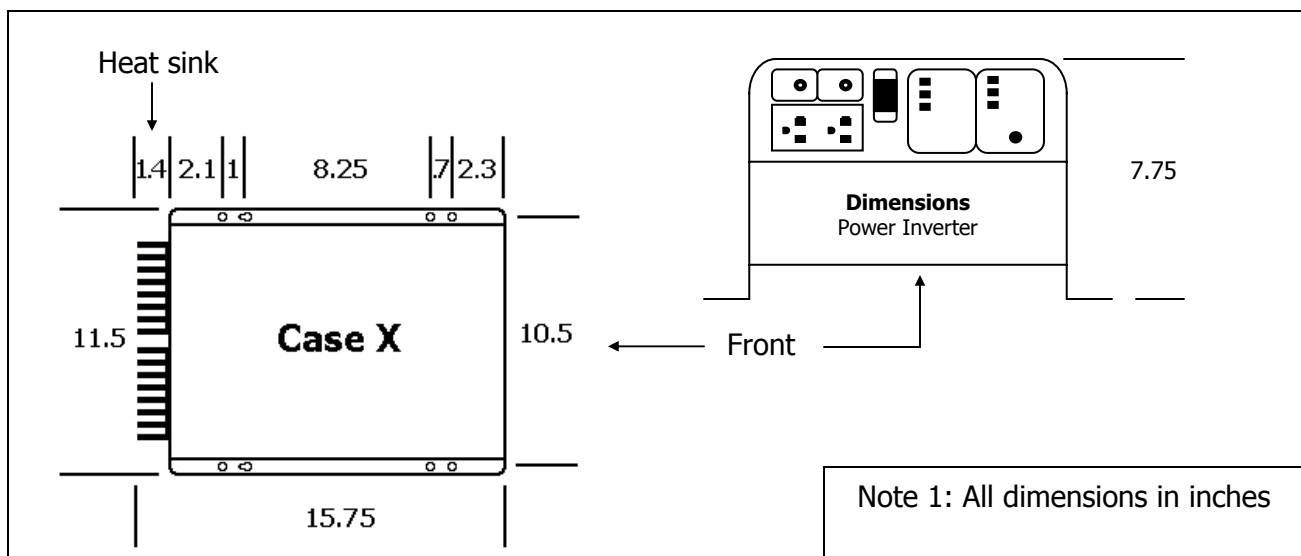

FIGURE 6: Inverter footprint
- c) Locate the keyholes at the rear of the chassis flanges and fasten them using 1/4 inch diameter screws. See figure 6, inverter footprints on this page below.